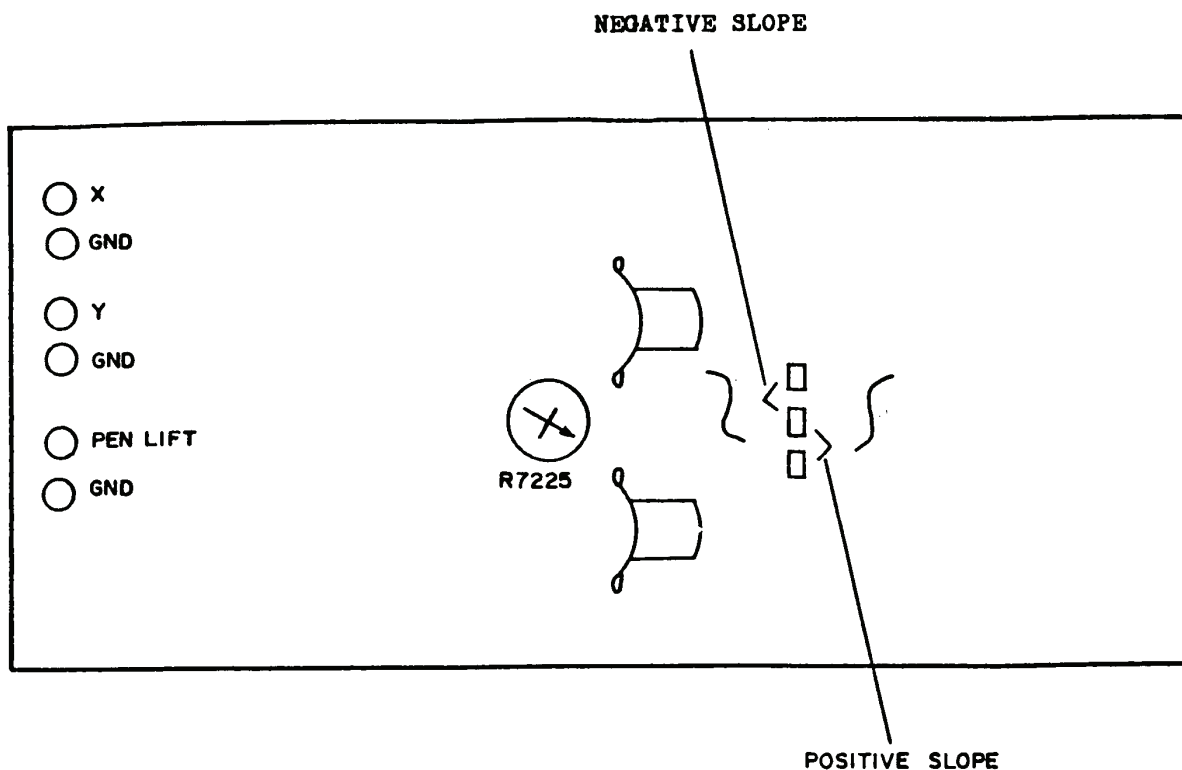

Figure 4. X-Y Output module - top view.
- (1) Place TI terminal connection link on negative slope terminal as shown in figure 4.
- (2) Set **REF LOSS (dB) (SENSITIVITY (dB))** switch to **0 dB** and **DISTANCE** dial to **000**.
- (3) Connect termination to **CABLE** input. Adjust **0 dB SET** control for a 4 division display on TI.
- (4) Connect multimeter positive lead to **PEN LIFT** red terminal and common lead to **PEN LIFT** black terminal. Multimeter will indicate approximately +5 V dc.
- (5) Lift **RECORD/CAMERA** switch to **RECORD** and release while observing crt sweep and multimeter in indications. Multimeter will indicate 0 ± 0.5 V at start of sweep and approximately +5 V at end of sweep.
- (6) Disconnect link from negative slope and connect to positive slope as shown in figure 4. Multimeter will indicate approximately -0.5 V.
(7) Repeat (5) above while observing beginning and ending indications of +4 V or more and -0.5 V or less respectively.
(8) Move multimeter connections to TI Y terminals.
(9) Adjust **ZERO REF SET** control fully cw.
(10) Lift and hold **RECORD/CAMERA** switch to **RECORD** and adjust **POSITION** control for a 0.0 V indication on multimeter.
(11) Adjust **ZERO REF SET** slowly ccw. If multimeter does not rise to approximately +0.4 V, perform **b** below. Release **RECORD/CAMERA** switch.
(12) Move multimeter connections to TI X terminals and lift **RECORD/CAMERA** switch to **RECORD**. Multimeter will indicate between 0 and 1 V as dot moves across crt screen. Release **RECORD/CAMERA** switch.
b. Adjustments. Lift **RECORD/CAMERA** switch to **RECORD** while adjusting R7225 (fig. 4) for a +0.4 V indication on multimeter (R).